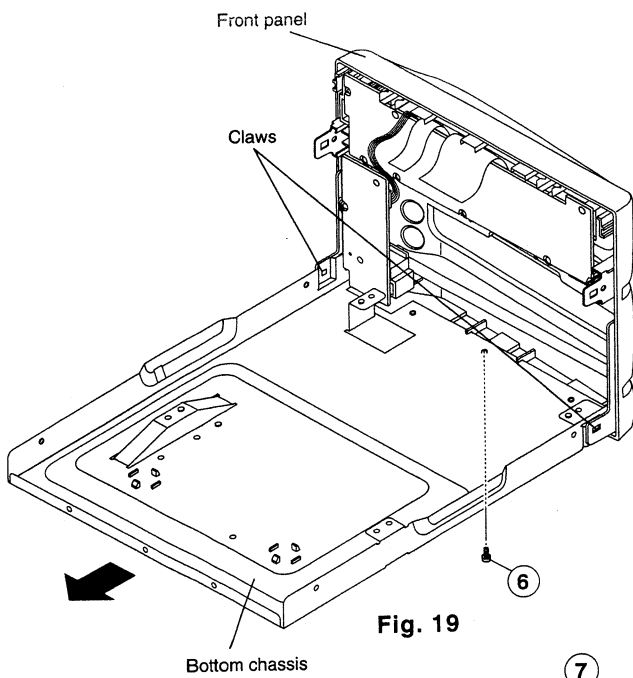

Fig. 19
- (1) Remove 4 screws ⑧ from the bottom chassis.
6. Removal of Bottom Chassis (Fig. 19)